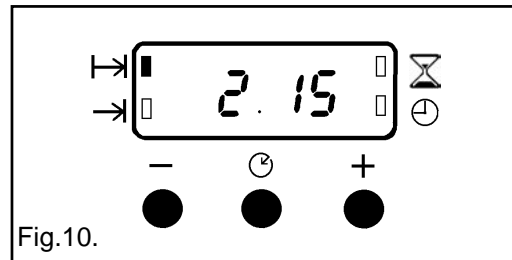

Fig.10.
- iv) To set the length of cooking time, press the Selector Control button until the 'Cook Time' () indicator neon is illuminated. Press the increase control (+) until the required length of cooking time is displayed, e.g. 2 hrs 15 mins as Fig. 10. Depress the decrease control (-) if necessary.